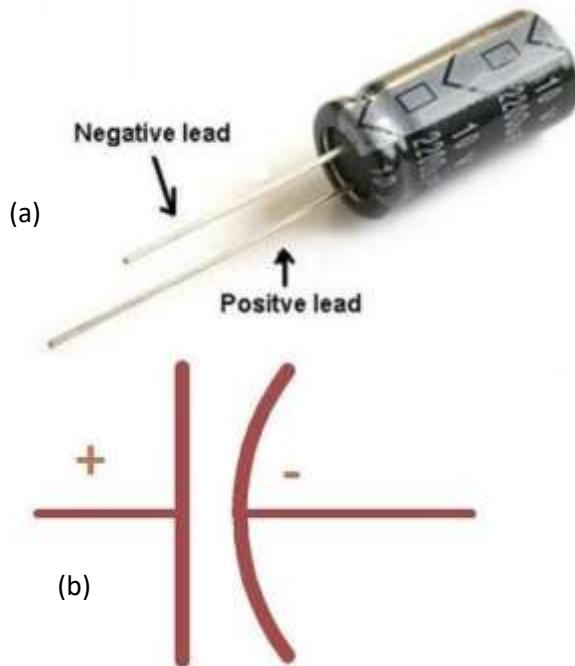

Fig. 4 (a) Polarized capacitor (b) Capacitor symbol
- Polarized capacitor is shown in Fig. 4(a) Silver band (or polarity band) on the capacitor represents negative terminal
- The polarized capacitor symbol is shown in Fig. 4(b), where the curve line indicates the negative terminal, and the straight line indicates the positive terminal.